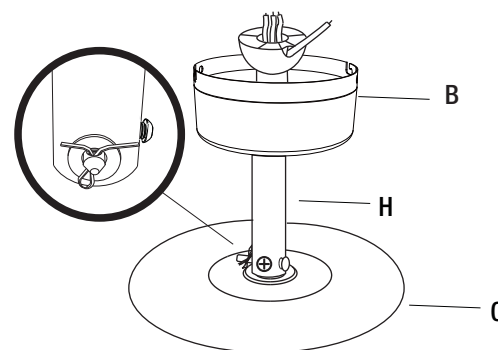

Figure 5
- Push the pivot pin (3) through the motor shaft and downrod holes (Figure 5). Secure the pivot pin (3) by installing the washer (2) and then inserting the split pin (1) into the pivot pin (3) and bending the ends to prevent it from falling out. (Figure 5).
- Secure the motor shaft and downrod by tightening the screw on the downrod (H) (Figure 5).